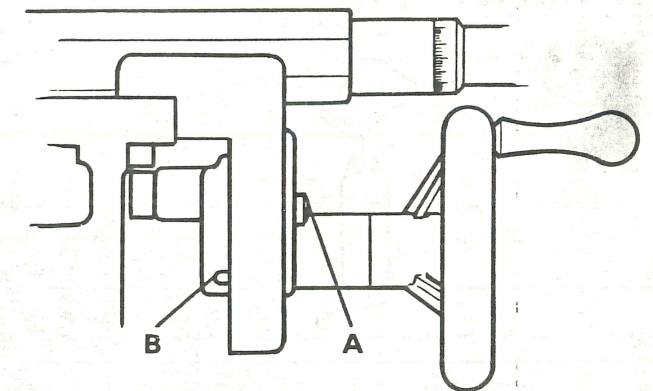

FIGURE 25
1. Loosen two screws (A Figure 25).
2. Insert Allen Wrench in hole (B).
4. Retighten two screws (A).